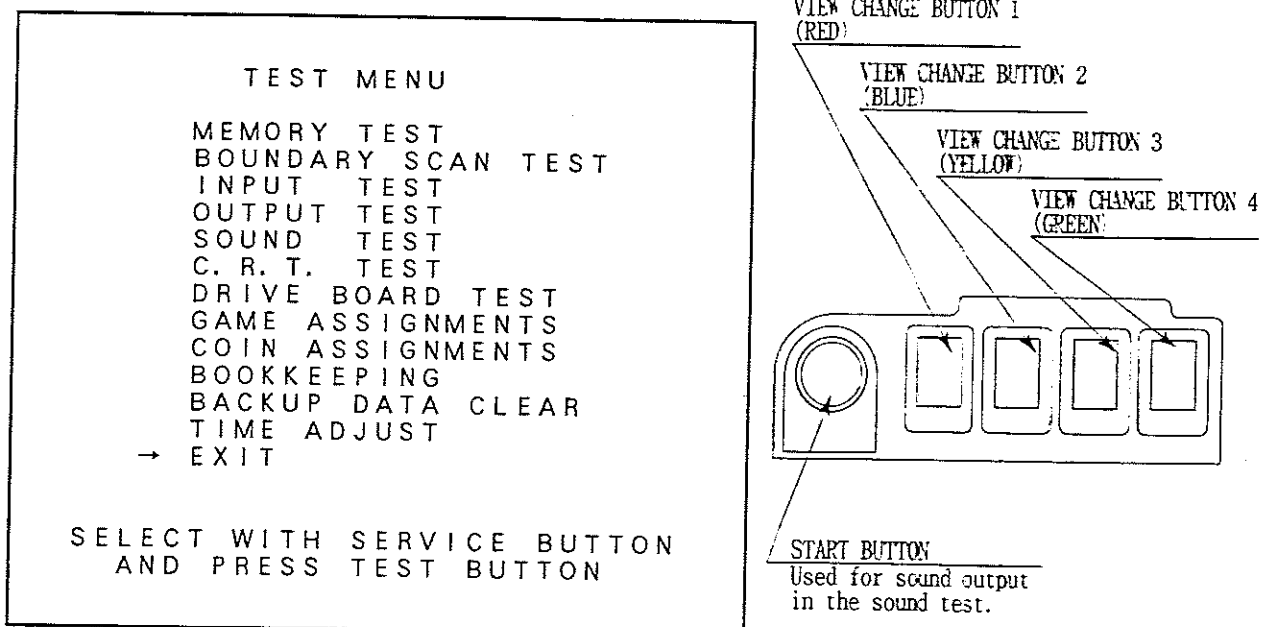

FIG. 9.2 TEST MENU
- Press the test button to have the menu displayed on the screen and enter the test mode (FIG.9.2).